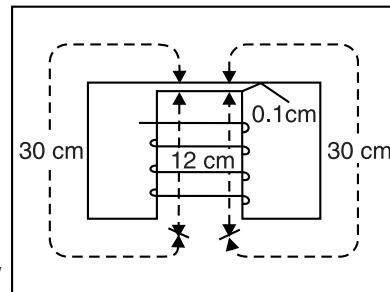

Fig. 8.29
**Example 8.22.** A magnetic circuit is made of mild steel arranged as shown in Fig. 8.29. The central limb is wound with 500 turns and has a cross-sectional area of  $8 \text{ cm}^2$ . Each of the outer limbs has a cross-sectional area of  $5 \text{ cm}^2$ . The air gap has a length of 1 mm. Calculate the current required to set up a flux of 1.3 mWb in the central limb, assuming no magnetic leakage and fringing. The mean lengths of the various magnetic paths are shown in the diagram. Given that for mild steel (from  $B-H$  curve)  $H = 3800 \text{ AT/m}$  at  $B = 1.625 \text{ T}$  and  $H = 850 \text{ AT/m}$  at  $B = 1.3 \text{ T}$ .